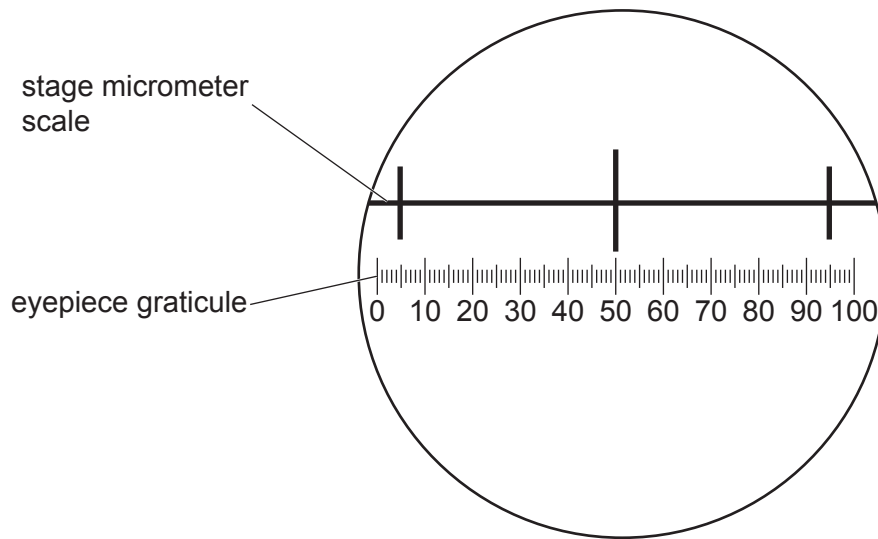
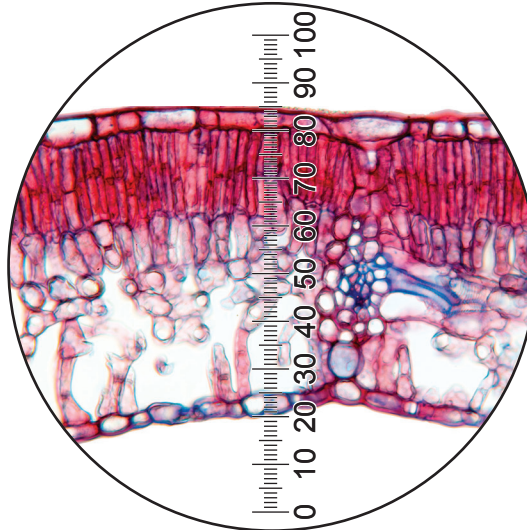

Fig. 2.2
Fig. 2.3
- (b) Fig. 2.2 shows a photomicrograph of a stage micrometer scale that is being used to calibrate an eyepiece graticule.
The length of one division on the stage micrometer in Fig. 2.2 is **1.0 mm**.
- (i) Calculate the actual length of **one** eyepiece graticule unit shown in Fig. 2.2.
- (ii) Fig. 2.3 is a photomicrograph of a transverse section of a leaf from another plant of the same species as **N1**.
Fig. 2.3 was taken with the same microscope and the same lenses used to take the photomicrograph in Fig. 2.2.
Use the calibration of the eyepiece graticule unit from **(b)(i)** to calculate the actual width of the leaf in Fig. 2.3.
- (iii) Identify **three** observable differences, other than colour, between the leaf section on **N1** and the leaf section in Fig. 2.3.